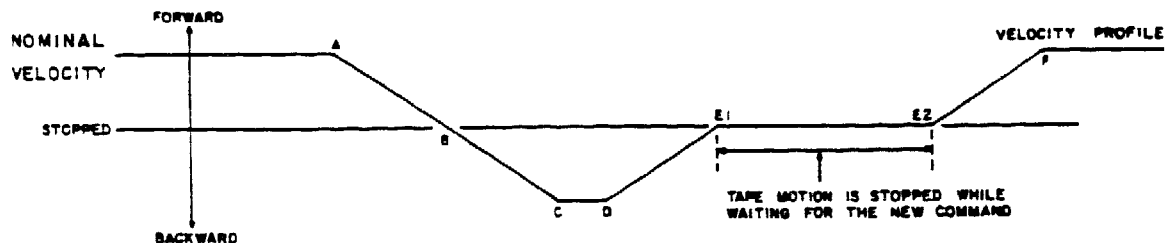
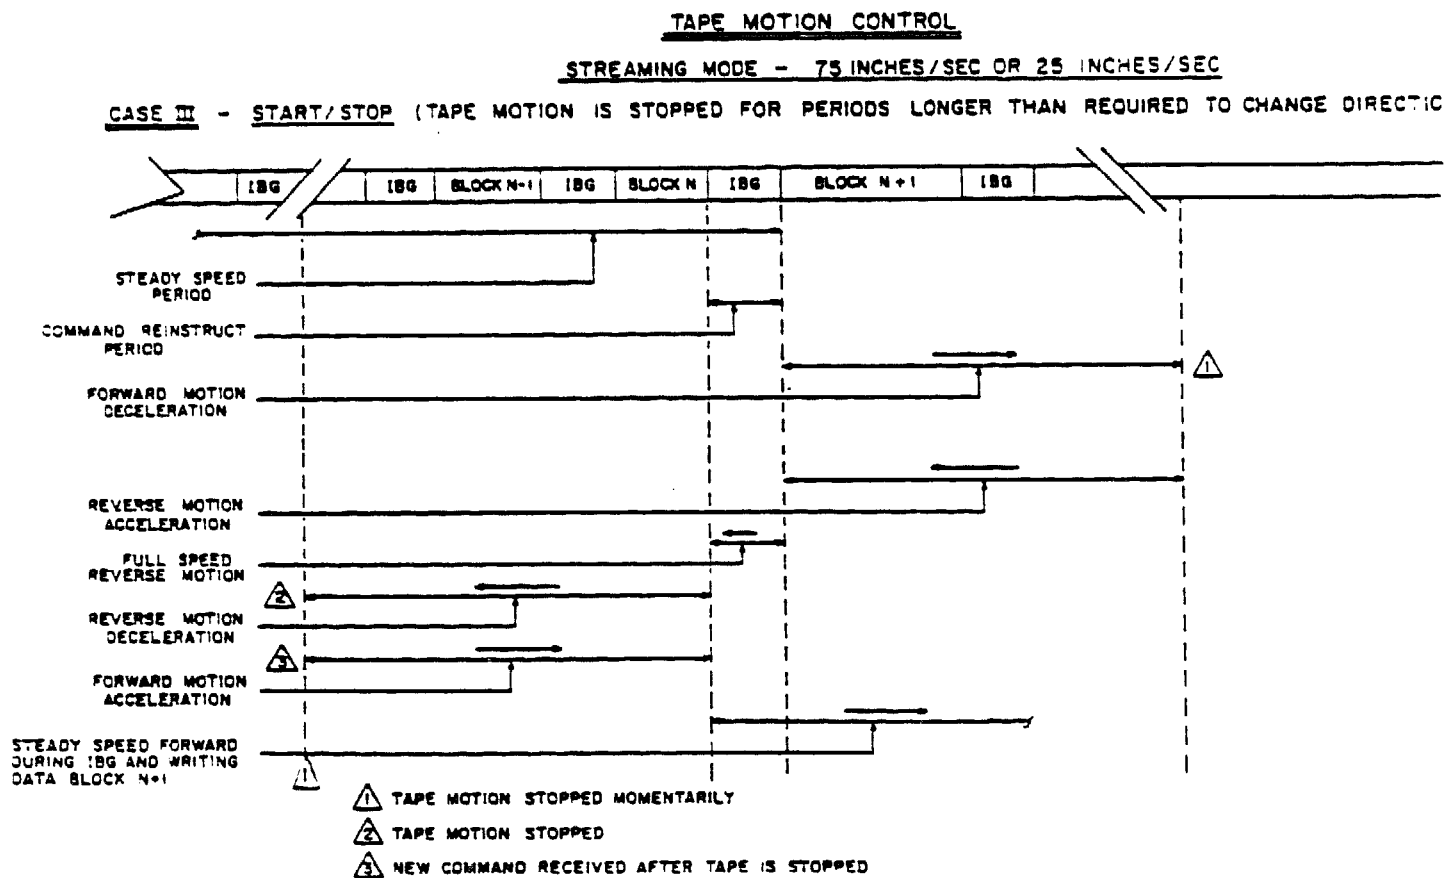

Figure 4-42. VELOCITY PROFILE - Case 3
Figure 4-43. TAPE MOTION CONTROL - Case 3
4.11.3.3 Case 3 (Wait For Command) - Command Received Following Repositioning Cycle (Figure 4-42). Very similar to Case 2 except that the subsequent command is not received until the tape has come to rest at point E1. The tape is then not accelerated until time E2 when the new command is received. Other than for this delay in receiving the next command, the correspondence between the time and distance domain portrayals is the same for Cases 2 and 3 (refer to Figure 4-43).